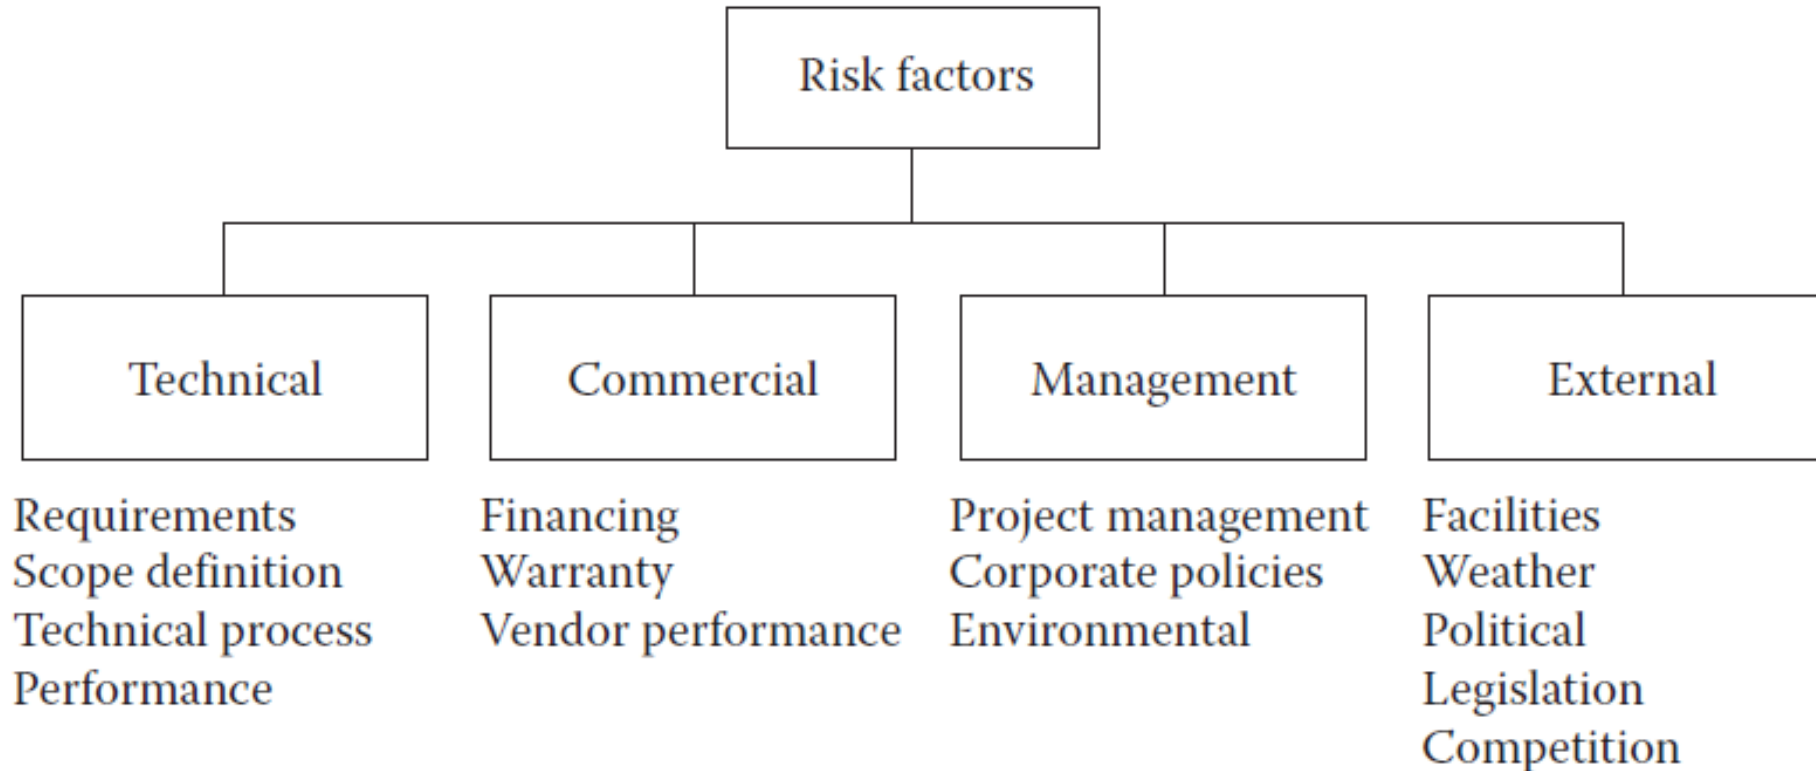

Figure 11.2 Risk breakdown structure. (From Richardson, G.L. 2010. *Project Management Theory and Practice*. New York: CRC Press, Taylor & Francis Group.)
- ❑ These categories are listed in Figure 11.2, which displays a sample risk breakdown structure.